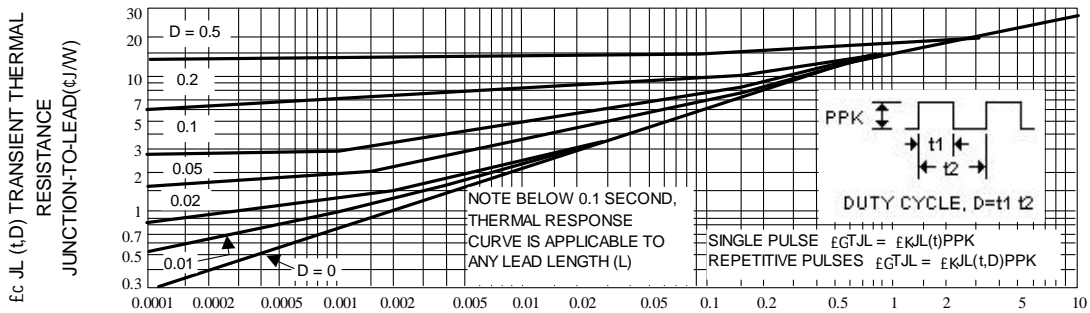
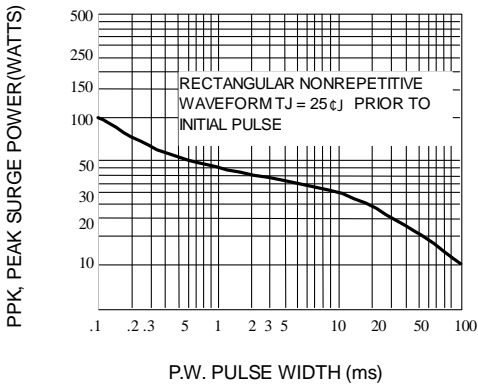
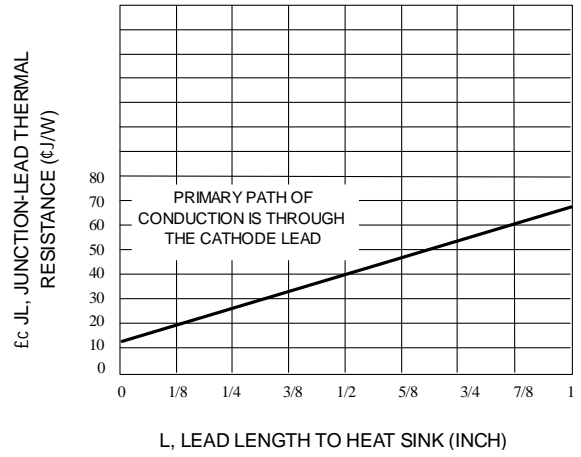

Fig. 2-TYPICAL THERMAL RESPONSE L,
Fig. 3-MAXIMUM SURGE POWER
Fig. 10-TYPICAL THERMAL RESISTANCE
4. SURGE CURRENT (I_r) NON-REPETITIVE - The rating listed in the electrical characteristics table is maximum peak, non-repetitive, reverse surge current of 1/2 square wave or equivalent sine wave pulse of 1/120 second duration superimposed on the test current, I_{ZT} , per JEDEC standards, however, actual device capability is as described in Figure 3.
θ_{JT} is the increase in junction temperature above the lead temperature and may be found from Figure 2 for a train of power pulses or from Figure 10 for dc power.
Data of Figure 2 should not be used to compute surge capability. Surge limitations are given in Figure 3. They are lower than would be expected by considering only junction temperature, as current crowding effects cause temperatures to be extremely high in small spots resulting in device degradation should the limits of Figure 3 be exceeded.